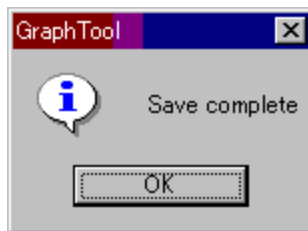

Figure 5.16 Completion Message
5. When the save completion message appears (see Figure 5.16), select **OK**.